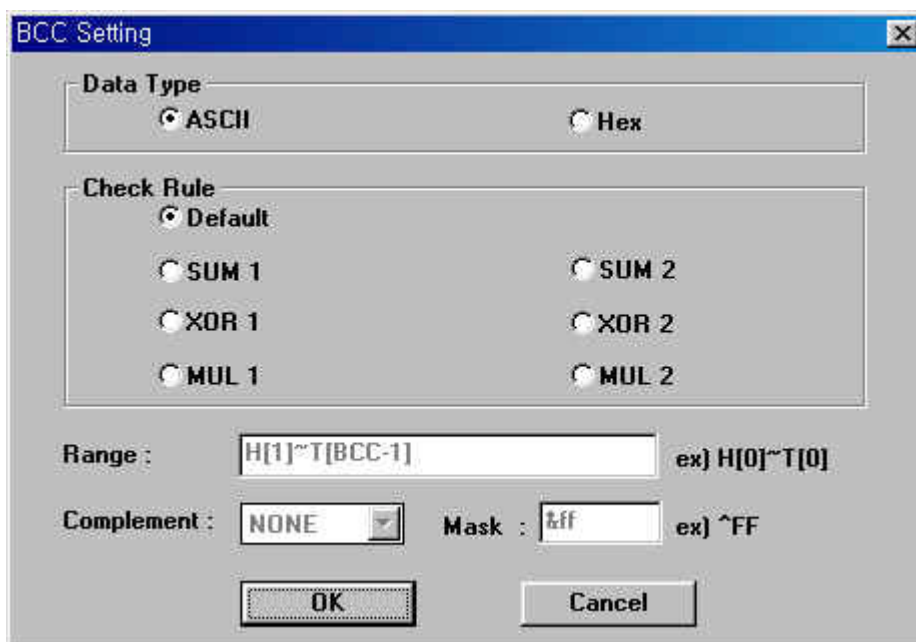

Fig. 6.9 BCC setting window
- ⑦ To use the BCC check function, write '[BCC]' at the tail and setting BCC by pressing the BCC setting button. (see the figure 6.9)